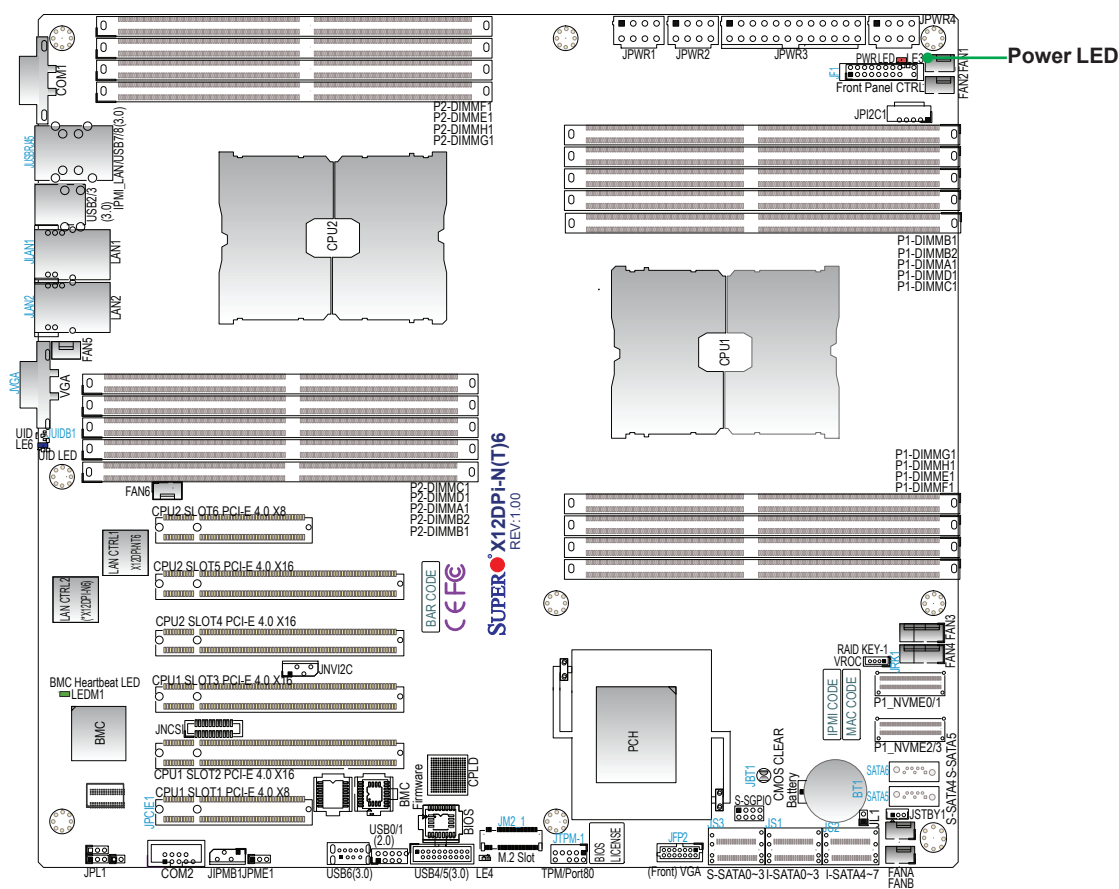

Figure 7-3. Location of the MB Power LED
4. Refer to the cable routing diagram and remove the front control panel connection on the motherboard LED to better see the power LED (LE3). See Figure 7-3.